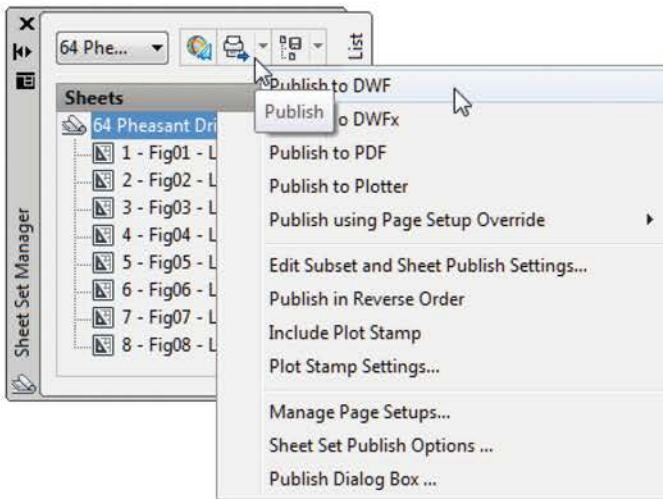
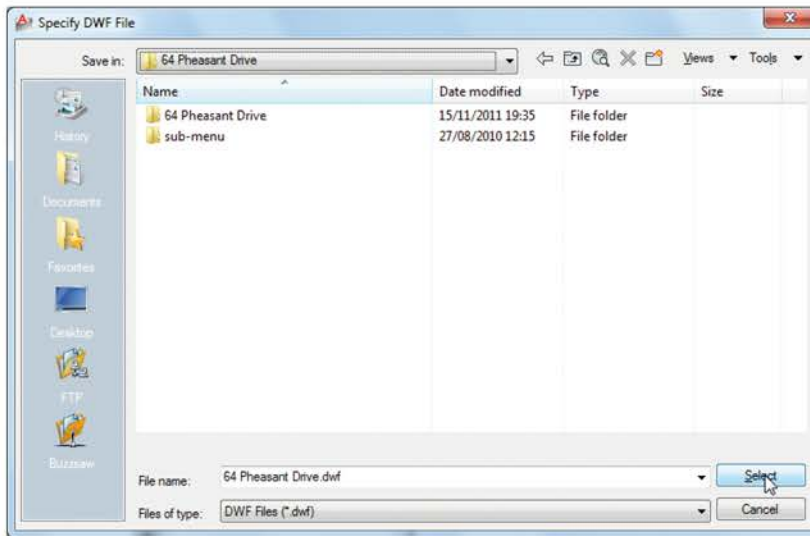
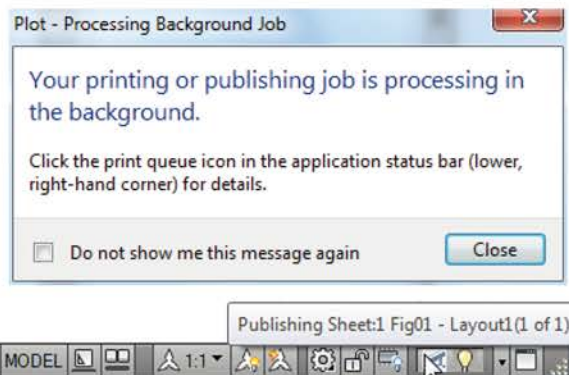

Fig. 15.10 The Publish icon in the Sheet Set Manager
Fig. 15.11 The Select DWF File dialog
Fig. 15.12 The Publish Job in Progress icon
1. In the **64 Pheasant Drive Sheet Set Manager**, *click* the **Publish** icon, followed by a *click* on **Publish to DWF** in the menu that appears (Fig. 15.10). The **Specify DWF File** dialog appears (Fig. 15.11). *Enter 64 Pheasant Drive* in the **File name** field followed by a *click* on the **Select** button. A warning window (Fig. 15.12) appears. *Click* its **Close** button. In Fig. 15.10, the **Publish** icon is in the **Sheet Set Manager** palette. The **Publish Job in Progress** icon in the bottom right-hand corner of the AutoCAD 2017 window starts fluctuating in shape showing that the DWF file is being processed (Fig. 15.12). When the icon becomes stationary, *right-click* the icon and *click* **Click to view plot and published details** in the right-click menu that appears (Fig. 15.13).